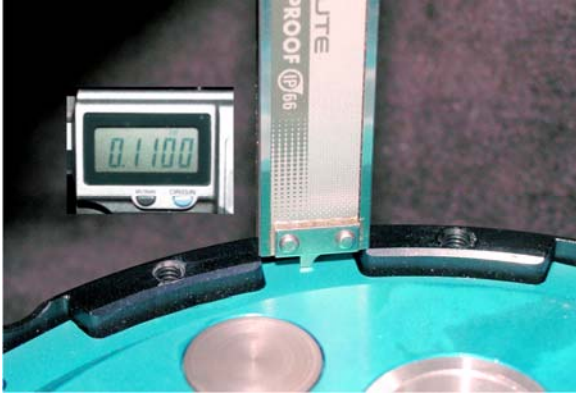

Fig. 3
- C. Replace the hardened steel spacer that goes between the face of the clutch basket and the inner hub with the three (3) piece needle bearing spacer supplied with your unit. **Make sure the needle bearing faces the clutch basket and the large thrust washer contacts the inner hub.** Install the Gen II modified inner stock hub. Tighten the locking nut to the factory specification. Check to make sure you have the correct end play on your basket after tightening. If you don't have .003 to .006" end play clearance, the inner hub will not rotate when the nut on the input shaft is tight. If the basket has too much end play, it could cause damage to the clutch or engine.
- F. Install the pressure plate and hat assembly as one piece on top of the last fiber. Because the basket sits behind the wall of the cases, the assembly must be rotated so the flats on the hat assembly clear the side of the cases and inserted into the basket at an angle. Check to make sure the hat clears the threaded boss on the case (See Fig.1 & 2). If it does not clear, grind the back side of the thread boss until it clears the hat. **Make sure the cover screw that goes into that boss is shorter than the length of the boss or it will hit the clutch hat.** The height from the top of the tang on the pressure plate to the top of the basket should be between 0.110"-0.120" (See Fig.3). Apply hand pressure to the extended puller, while measuring, to make sure the plate is tight against the fiber. This will give you an air gap below your arms to the buttons between 0.110"-0.120". On the GS1100/1150 Gen II this can be checked after the hat and pressure plate is installed due to the open side flats in the hat.